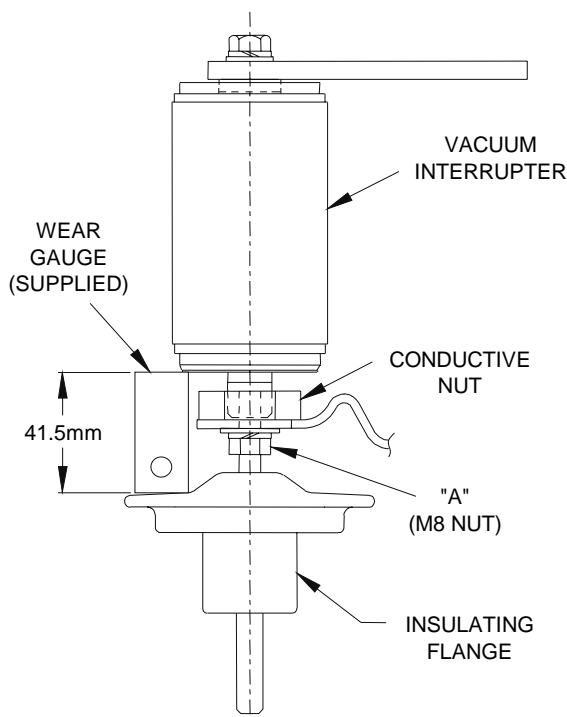

Fig. 11 Adjusting the Main Contact Gap.
2) As shown in Fig. 11, turn the insulating flange until the gap is 41.5mm.